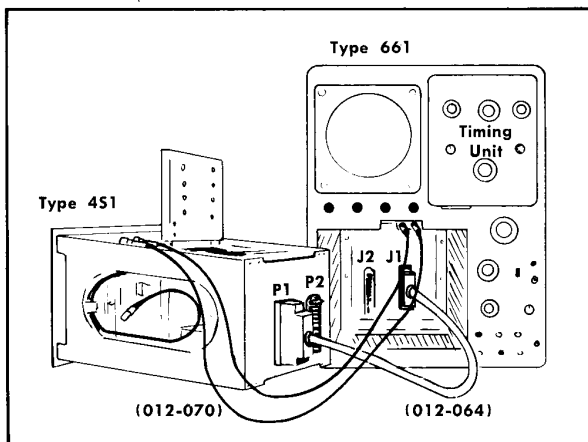

Fig. 5-1. Connections for operating the Type 4S1 outside the oscilloscope during calibration.
Connect the Type 4S1 to the Type 661 Oscilloscope with the cables listed above (equipment items 8 and 9). See Fig. 5-1. No cable is required for the readout connector. Extend the AC Amplifier subchassis from the Type 4S1 with the 22-